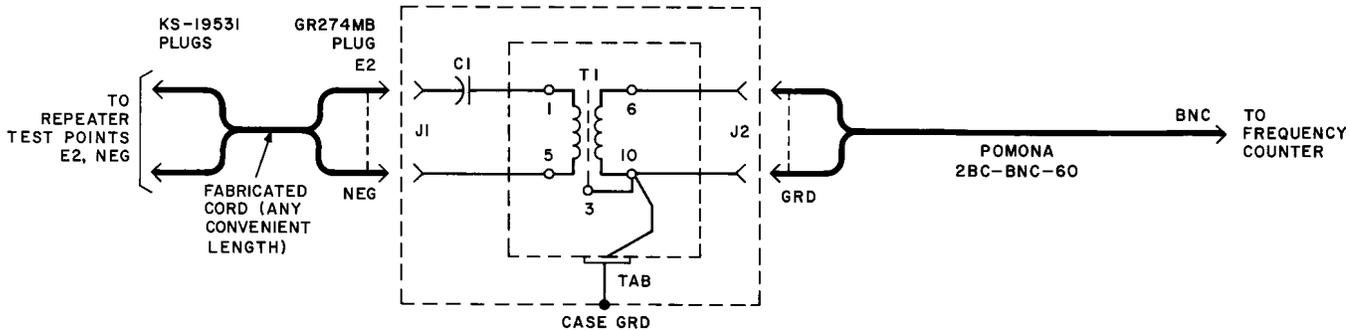

Fig. 1 -- Test Fixture for 304-KHZ Frequency Check
- 1 — Test Fixture per Fig. 1 (see note) to be made up locally
- 1 — Cord (Fabricate as shown in Fig. 1 or use equivalent)
2	Connect the counter input to the OSC E2 and NEG test points on the face of the N2 repeater using the test fixture shown in Fig. 1.